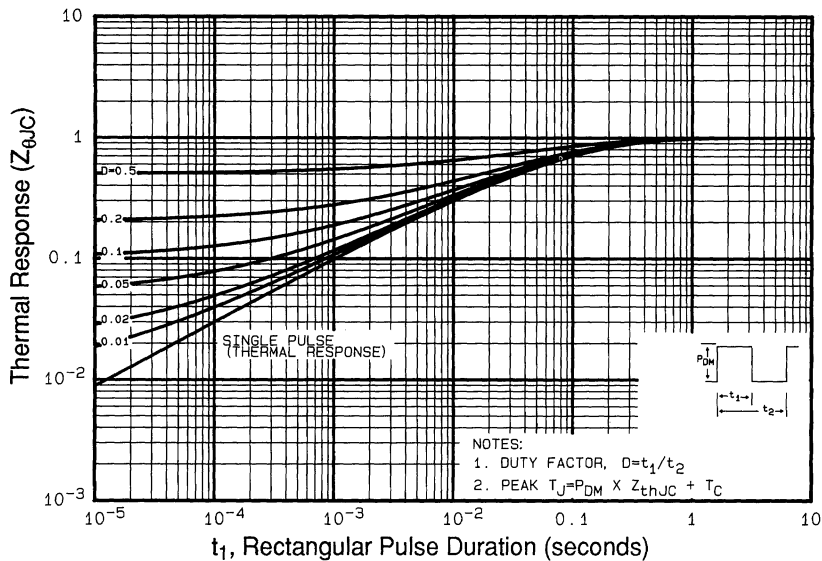

Fig 11. Maximum Effective Transient Thermal Impedance, Junction-to-Case
- ① Repetitive rating; pulse width limited by max. junction temperature. (See fig. 11)
- ② $V_{DD} = 50V$, starting $T_J = 25^\circ\text{C}$, $L = 2.7mH$
$R_G = 25\Omega$, $I_{AS} = 18A$. (See Figure 11)